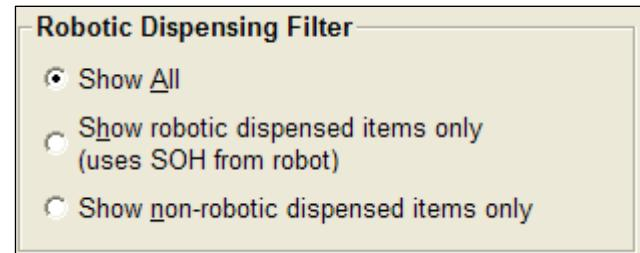

Figure 340
4. If you use a robot to dispense your drugs you can use the 'Robot Dispensing Filter' (see Figure 340). This filter has three options to chose from: